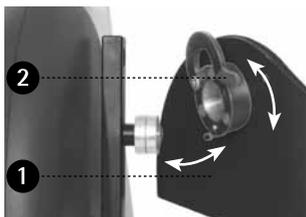

fig. 29
Attaching the foot shells (fig. 29): In case the hand grips are attached to the MOTomed, please remove those and attach the foot shells instead ❶. The quick release option requires no tools for exchange. Open the red safety clip ❷ in order to loosen the fixation. Remove the hand grips and attach the foot shells ❶.